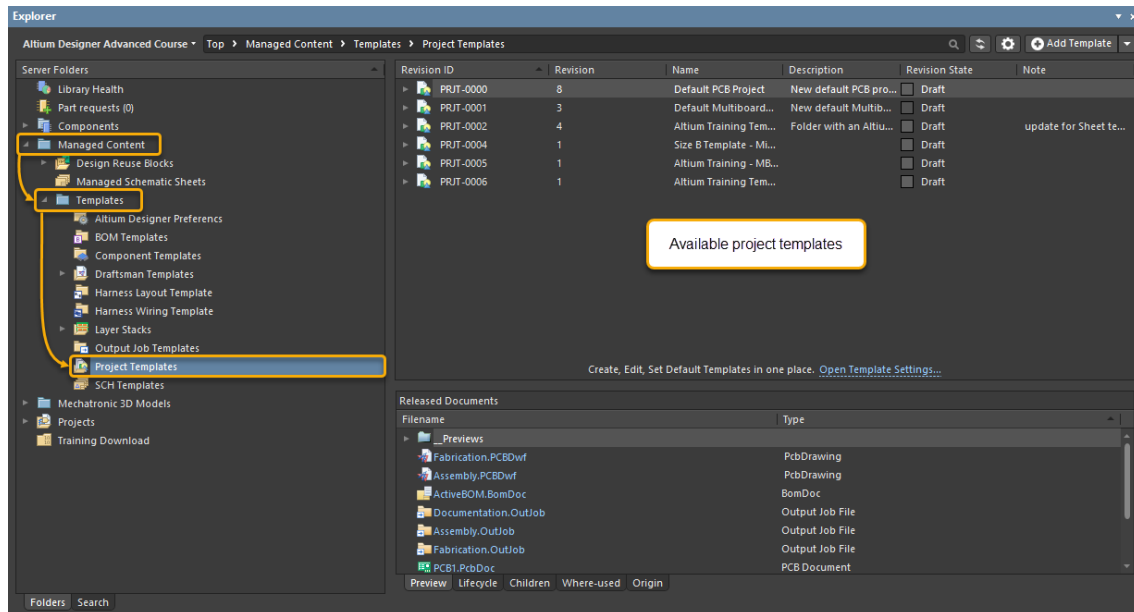

Figure 3. Available project templates
9. Navigate to the Branch *Managed Content - Templates - Project Templates*, Figure 3.